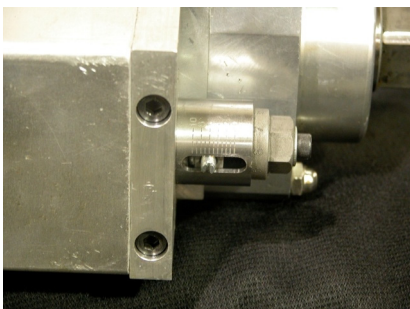

Fig. 1
ADJUSTMENT (See Fig. 1): Torque is adjusted while the control is in the off position. Loosen the locking Slot Head Set Screw (69) located in the center of the graduated Spring Housing cylinder (23). Apply a wrench to the Adjusting Knob (25) and rotate. (Counter-clockwise rotation increases the torque and clockwise rotation lowers the torque setting.) Retighten the locking Slot Head Set Screw in the graduated Spring Housing cylinder. Repeat the procedure as necessary until the desired tripping torque is achieved.